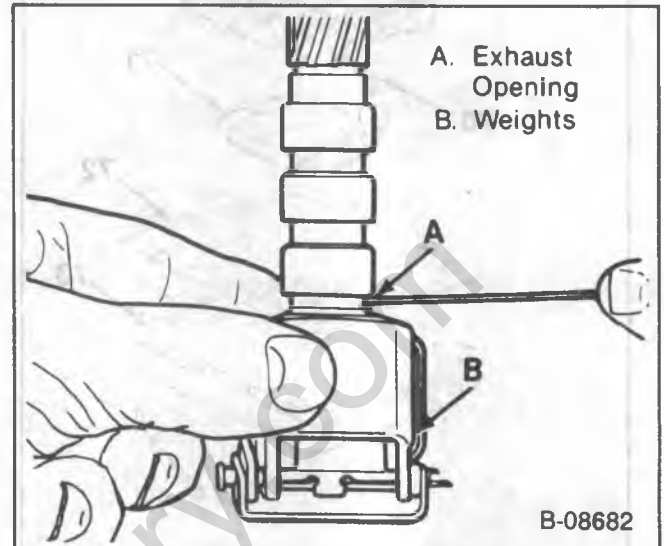

Figure 62—Measuring the Governor Valve Exhaust Opening
- Valve exhaust opening. With the weights held all the way inward, the opening should be 5.1 mm (0.020 in.) (figure 62).